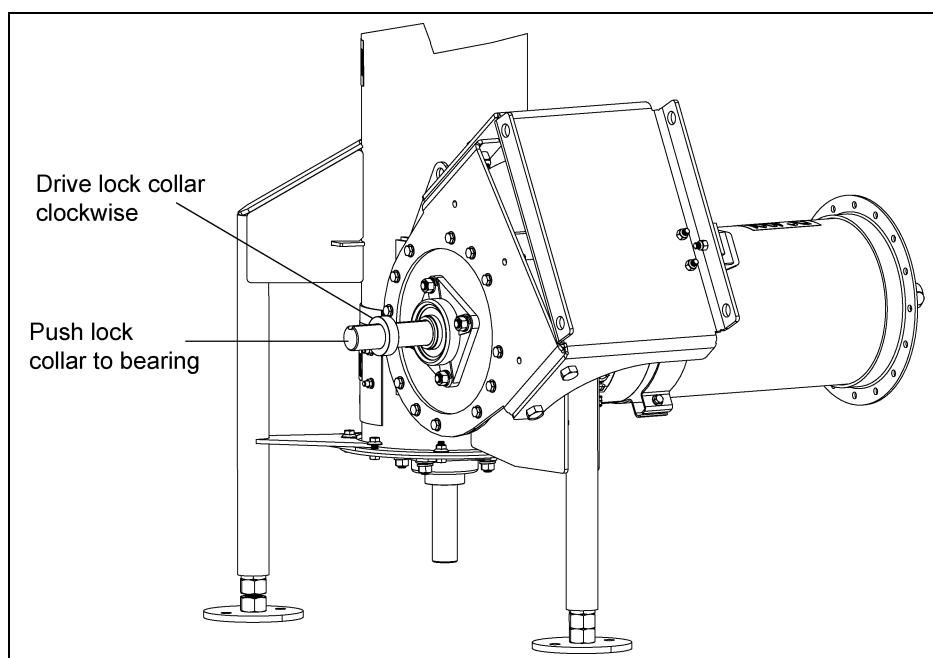

Figure 4N
3. Slide the bearing lock collar over the drive shaft up to the bearing. Using a hammer and punch, continue to drive it onto the bearing in the clockwise direction, the same direction of the auger flight rotation. *(See Figure 4N.)*